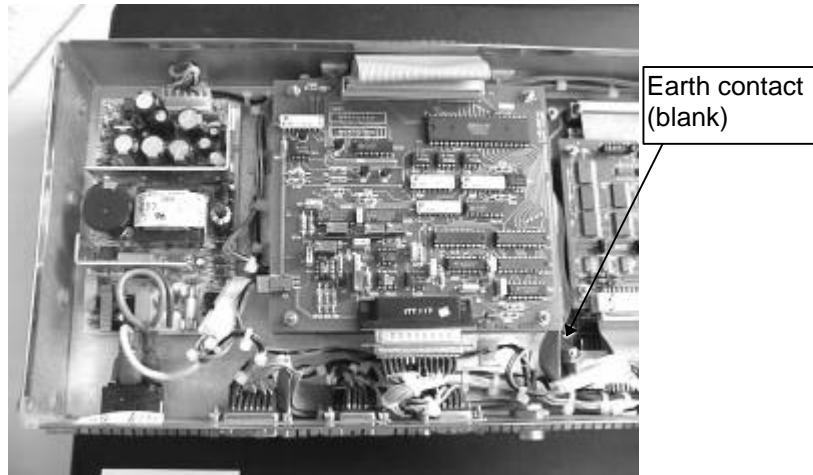

Fig. 20: PCB
- ⇒ Find the earthing contact (black cable, see Fig. 20) and connect it.